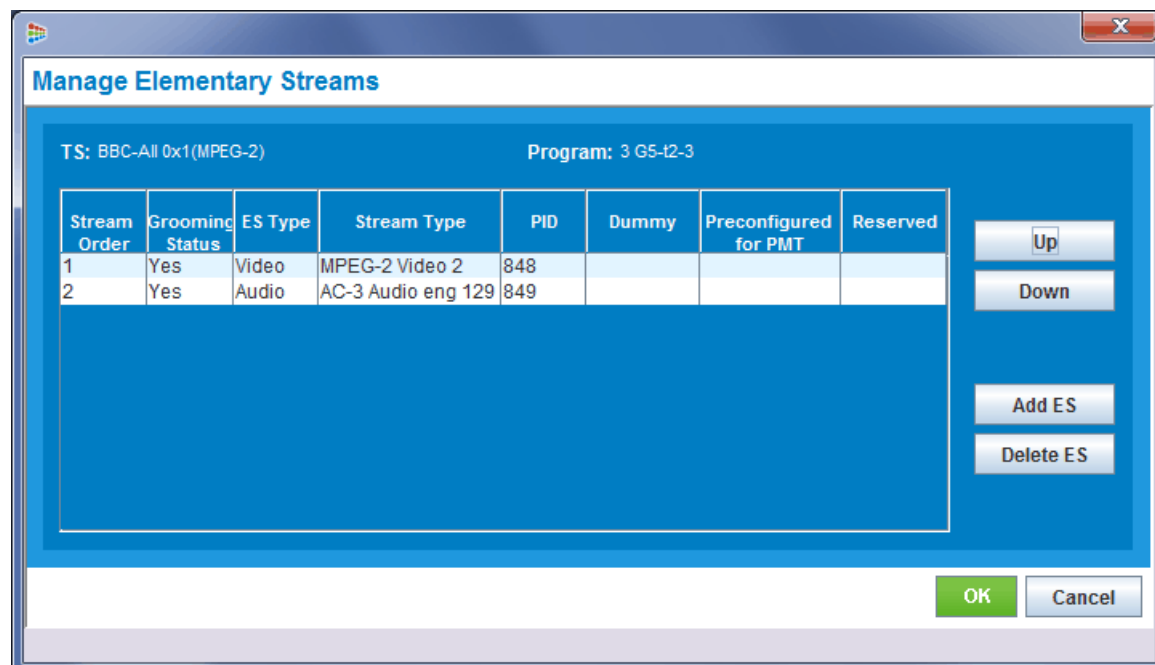

Figure 150. Manage Elementary Streams
2. Right-click and select **Manage Elementary Streams** from the pop-up window. The window of Figure 150 appears (The stream entries will vary per program).